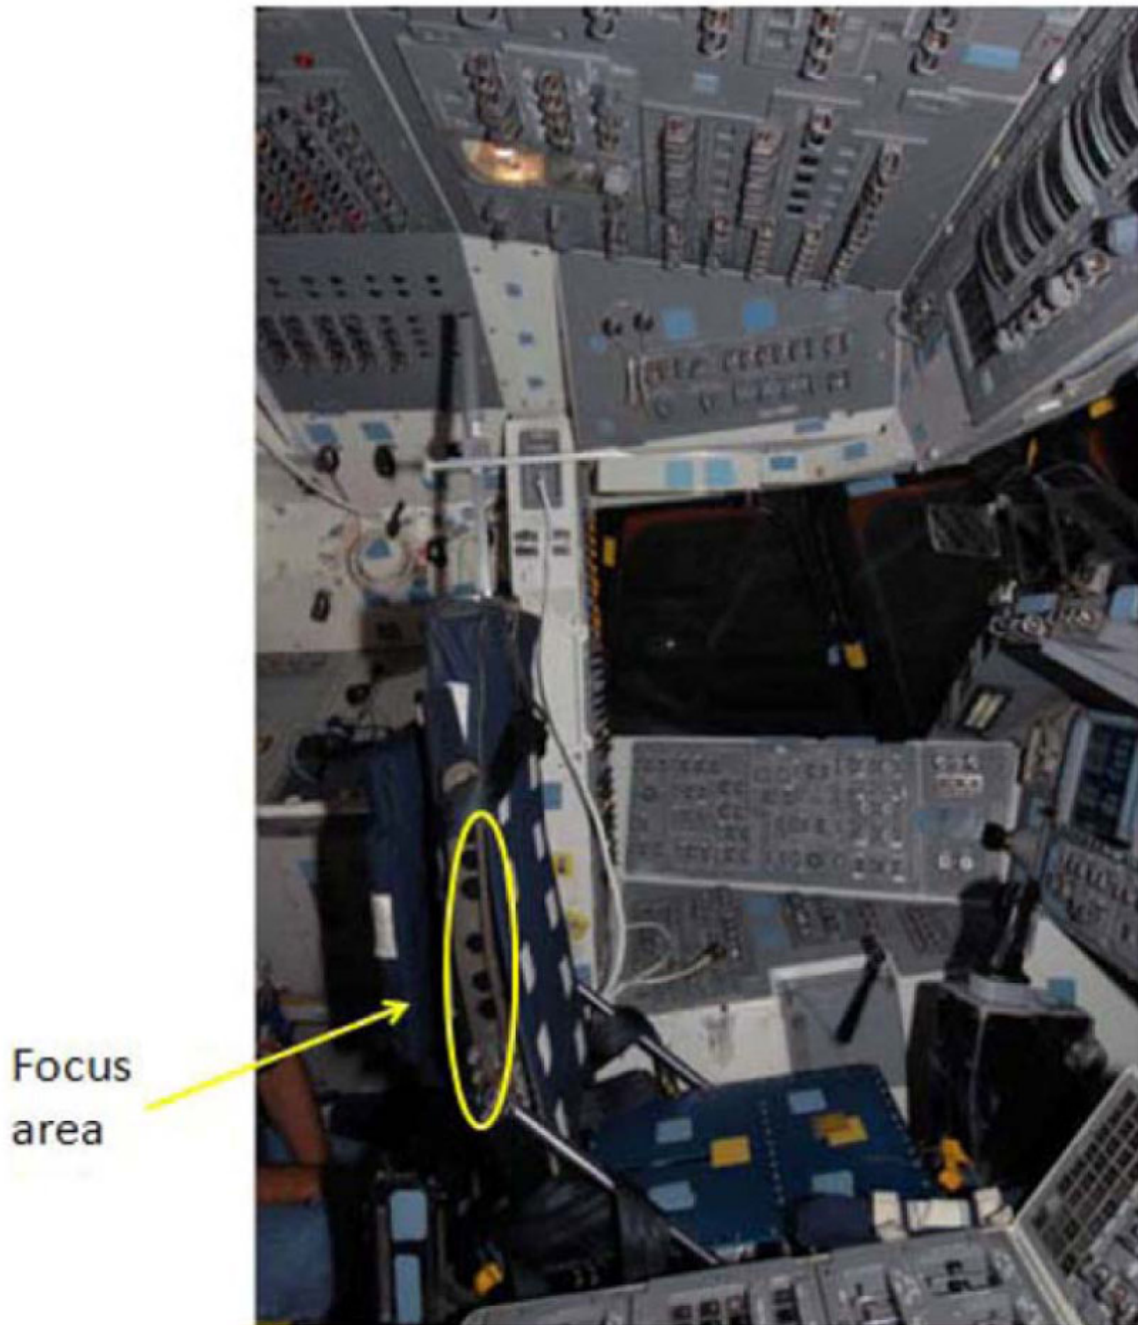

Figure 7. Correct D2Xs Camera Image Capture Area.
- 4.6 Autofocus on CDR seat (specifically on the side of the seat with the circle as seen in Figure 7).
- 4.9 Take a test photograph. Entire profile of the CDR seat should appear in the picture. Refer to Figure 7 for an example.